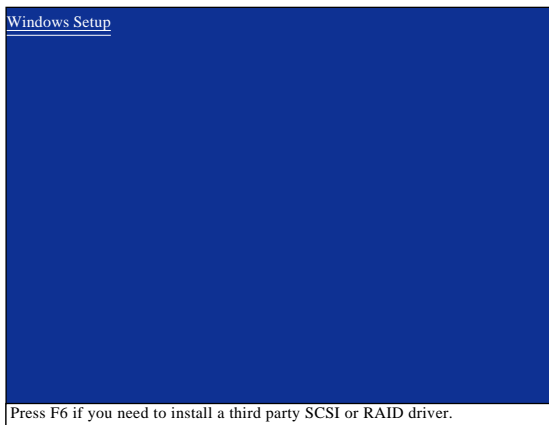

Figure 1
Step 1: Insert the prepared startup disk and motherboard driver disk in your system. Boot from the startup disk. Once at the A:\> prompt, change to your optical drive (example: D:\>). At the D:\> prompt, type the following two commands. Press <Enter> after each command (Figure 1):
Step 1: Restart your system to boot from the Windows XP setup disk and press <F6> as soon as you see the message "Press F6 if you need to install a 3rd party SCSI or RAID driver" (Figure 1). After pressing <F6>, there will be a few moments of some files being loaded before you see the next screen.